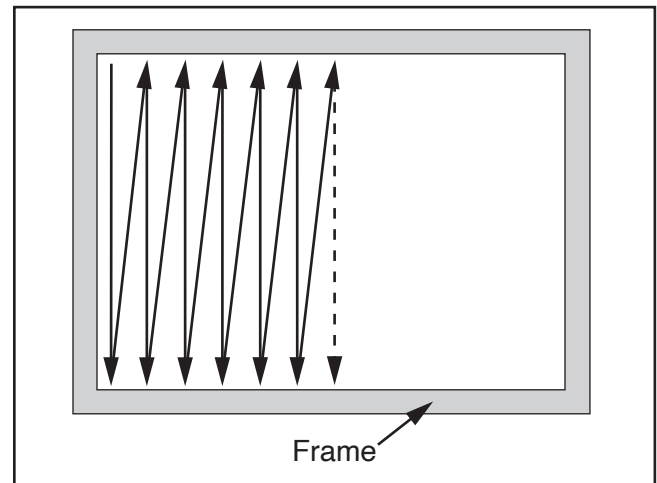

Figure 20. Example of frame around workpiece and basic back-and-forth tracking pattern.
- Leave a frame around the workpiece of approximately 1" that does not go through the wheels (see **Figure 20**). As the center of the workpiece stretches and the frame does not, the metal is forced to bend into a curve. Some workpieces may need a larger frame to accommodate expansion of the metal and removal of excess material, if needed.
- Overlap each pass with the previous one in a smooth, back-and-forth movement through the wheels, as shown in **Figure 20**. There are many patterns of tracking that will produce different results. Refer to **Page 19** for additional tracking patterns. Choosing the correct pattern for your operation is a matter of research and experience.